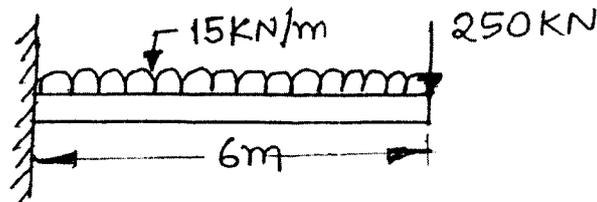

Fig.Q5(b)
b. For the beam and loading as shown in Fig.Q5(b), determine deflection, slope and support reaction. Take  $E = 110 \text{ GPa}$ ,  $I = 5 \times 10^{-4} \text{ m}^4$ . (08 Marks)